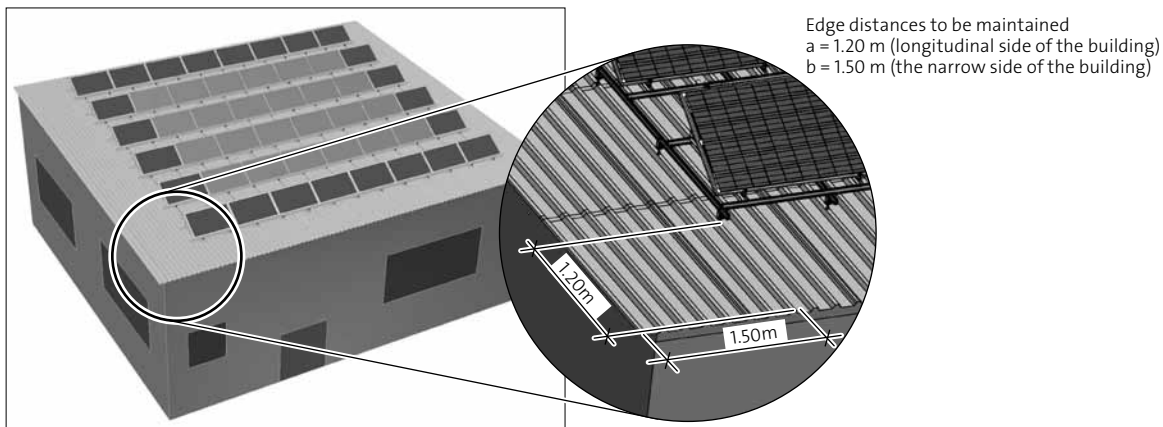

Fig. A 3-1
- ▶ In the event that the PV system is fixed to the roof with ballast elements (e.g. concrete elements), then the outer elements are to be loaded with increased ballast weight (dark grey elements, see Fig. A 3-1).